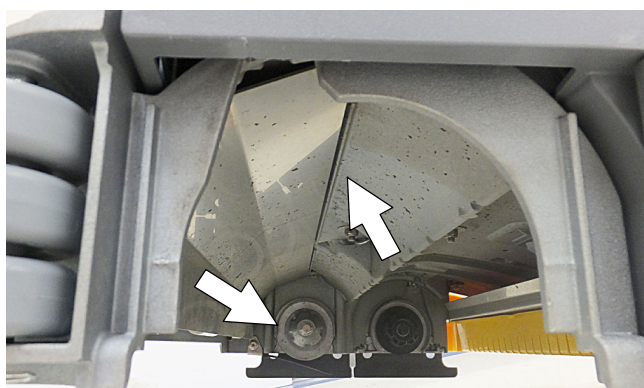

FIG. 68
3. Cylindrical scrub head - Remove debris buildup from underside of scrub head, including the idler plates and drive hubs (Figure 68).